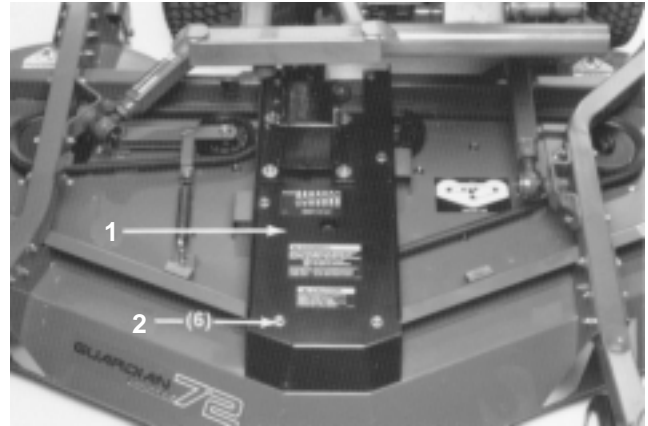

Figure 22
3. Remove the capscrews and nuts securing the gear box plate to the deck channels (Fig. 22). Lift the gear box plate and gear box off of the deck channels and lay it on top of the deck.